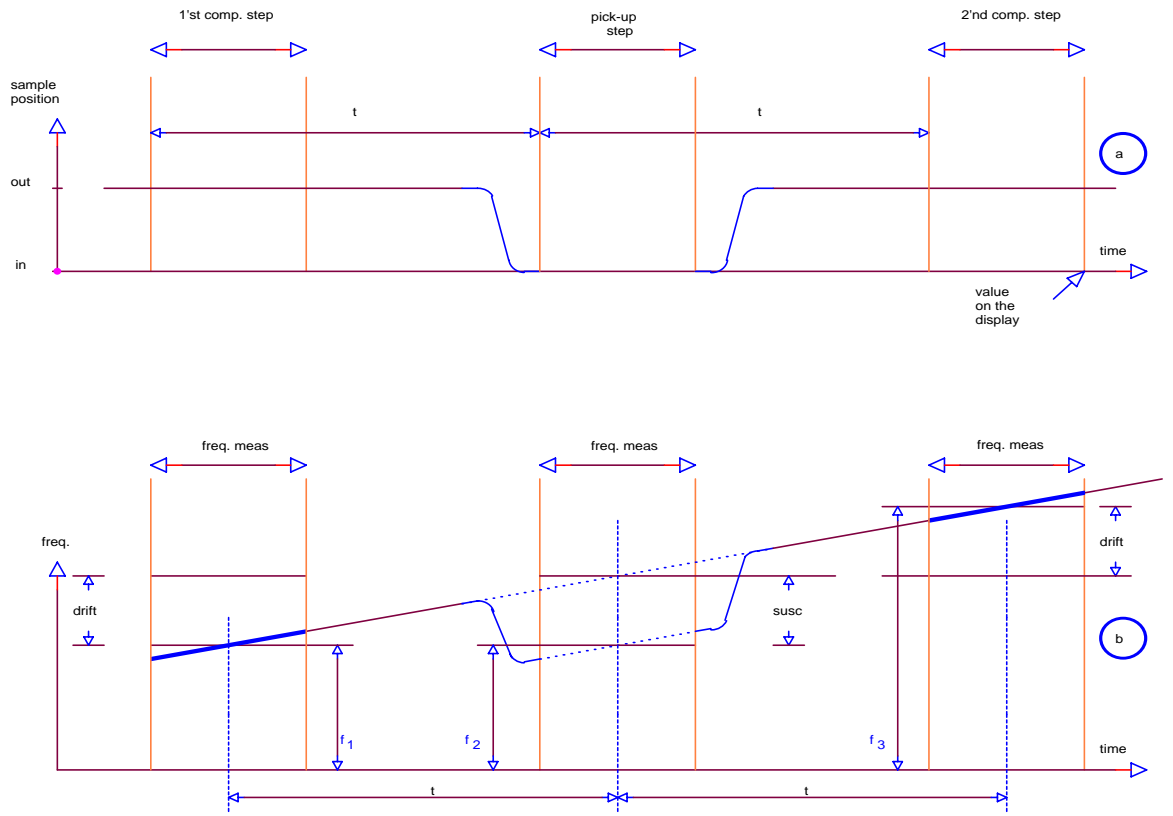

Fig.2
To suppress the thermal drift the SM-100 employs thermal drift correction mode described in Fig. 2. Figure 2 makes it possible to derive
4.2 Figure 2